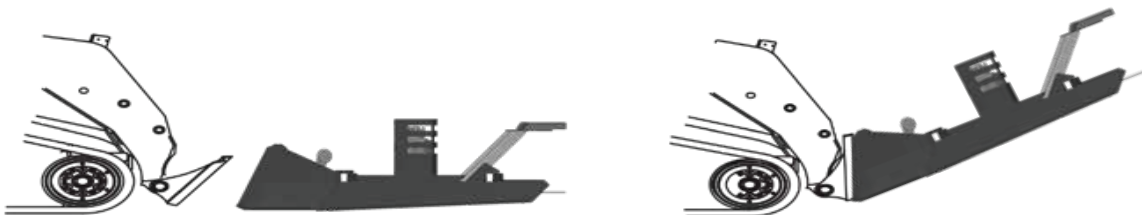

FIGURE 3.1A - QUICK ATTACH COUPLER LOCKED TO ATTACHMENT
2. Tilt the skid steer loader Quick Attach Coupler slightly down and drive forward to the rear of the cutter until the top edge of the Quick Attach Coupler hooks under the lip of the attachment bracket. See figure 3.1a below.
3. Slightly tilt the skid steer Quick Attach Coupler upward until the brush cutter attachment bracket is flat against the skid steer Quick Attach Coupler. See figure 3.1a below.